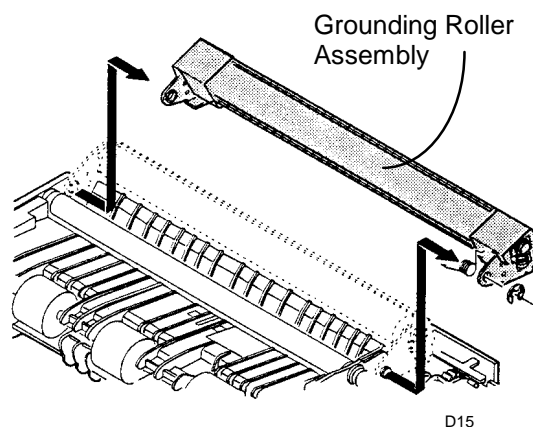

Figure 2. Removing the Grounding Roller Assembly
4. (Figure 2): Remove E-Ring and remove the Grounding Roller Assembly.